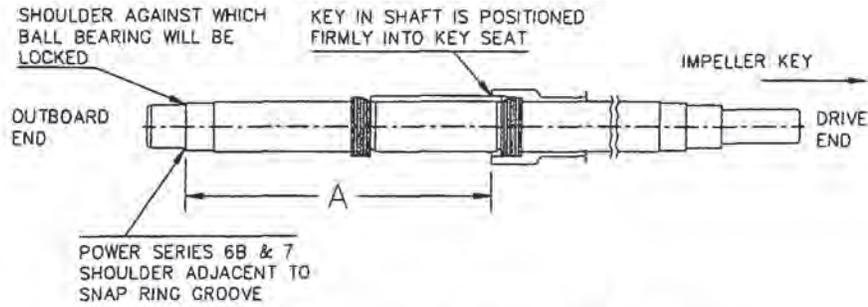
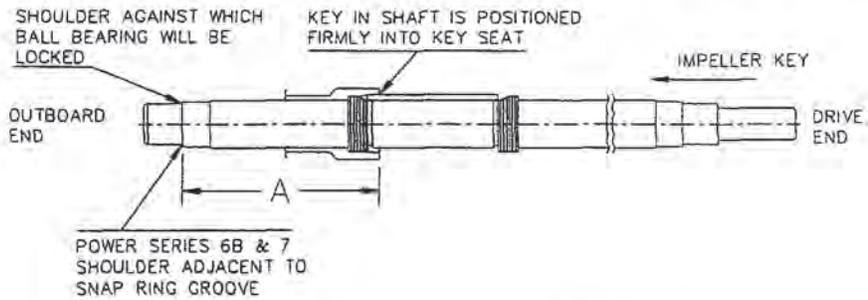

Figure 1 Shaft Sleeve Rotation-CW Rotation
Figure 2 Shaft Sleeve Location-CCW Rotation
2. On a **CW Rotation** unit, thread inboard sleeve (14) onto shaft (4) distance "A" (refer to Figure 1). On **CCW Rotation** unit, thread outboard sleeve (14) onto shaft distance "A"(refer to Figure 2). When sleeve is in position, its keyway should align with keyway on shaft. Coat key and keyway with loctite sealant grade 242. Insert key (102) into keyways of shaft and sleeve. Tap key firmly in place.
3. Coat inside diameter of impeller wearing rings (17) (optional) with Loctite sealant Grade 271 and press them over hubs of impeller(s) (1). Do not attempt to hammer impeller wear rings into position, since they are a press fit. Use of an arbor press is preferred. However, placing a block of wood over the impeller wearing ring and pressing it in will work satisfactorily. For pumps on power frame 5 only, four setscrews will be installed by drilling into wearing rings and impeller. The opposite surface of the impeller should be protected from damage throughout the procedures by resting it against soft wood on the surface of work bench.
- a. Slide one seal lock collar (54) with set-screws (55) facing the impeller onto each end of the shaft. Position on scribe mark made during disassembly and lock in place.
- c. Place the seal's spring, drive ring, retainer, flexible bellows, and washer on shaft sleeve in respective order. (Refer to Figure 1.)
- d. Thoroughly inspect cavity of seal gland (31) for burrs or nicks which could damage the seat of seal. Apply a film of liquid detergent to seal seat and install it in the seal gland cavity, taking care to seat it evenly and squarely.
- **Place "O" rings (50) around seal glands and slide seal glands onto ends of shaft.**
- a. Place one seal seat in collar. The other fits into seal gland (31). These parts are set into their cavities in the same manner as they are with a single seal.
- b. Place "O" rings around collars and put the collars with stationary seats facing away from impeller on ends of shaft. Slide flexible bellows, washers, and springs on shaft in the order shown in Figure 1, for each half of double seal assembly (456).
- b. Place "O" rings (50) around the seal glands (31) and slide seal glands onto ends of the shaft with stationary seats facing impeller.
5. Place slinger (126) onto outboard end of shaft (4).
6. Press grease seal (159A) into bearing cartridge (A159). Place outboard double row ball bearing (168) in bearing cartridge and press parts onto outboard end shaft. Snap retainer ring (161) in place to secure outboard bearing. Place gasket (34) and cartridge cap (B158) in position and secure it with capscrews.